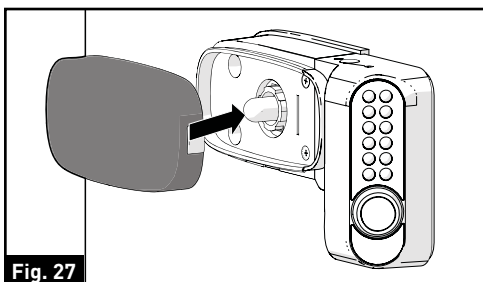
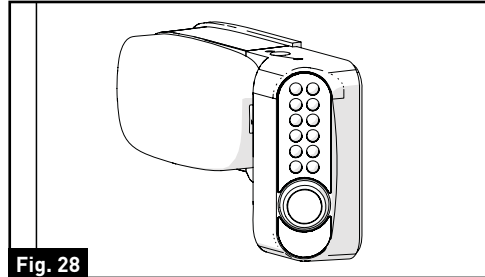

Fig. 27
Fig. 28
7. Replace the lens cover over the traffic light base and press until a “click” is heard. The camera is now fully installed onto the vehicle. (Fig. 27 and Fig. 28)